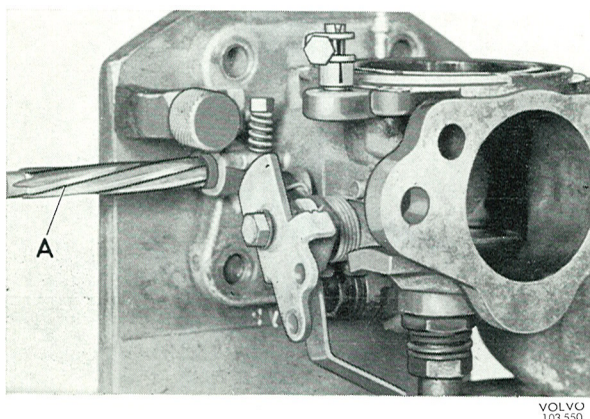

Fig. 2-107. Reaming the location for bush
2. Secure stand SVO 2603 in a vise and mount the carburettor on the stand with the hooks as shown in Fig. 2-107 for work with SU-carburettors, use the thick pin of the stand. Make sure that the pin hole comes in line with the throttle spindle hole.
3. Ream the holes for the throttle spindle in the housing with reamer SVO 2880 (SVO 2400 as alternative). See Fig. 2-107. Do not pull the reamer back through the hole, but release the attachment and push the reamer in the direction of operation through the hole in the bottom plate. If the reaming is done in a vertical drilling machine, a minimum speed must be used and the reamer carefully secured so that it does not throw. If the reamer throws, the holes will be too large. The bushes will then become loose so that the housing must be scrapped.